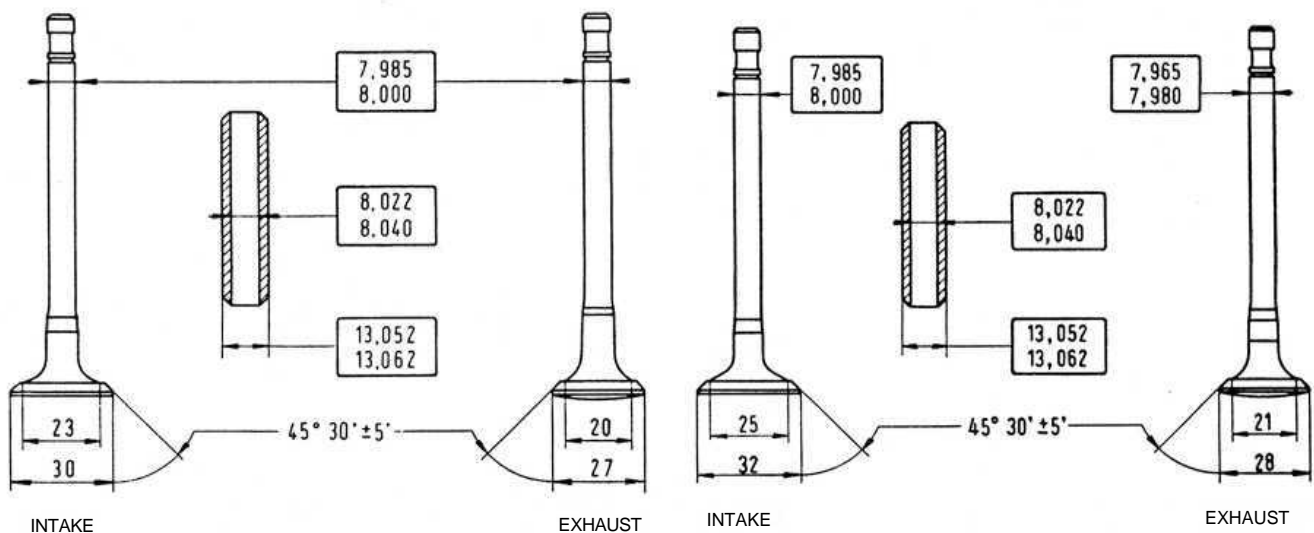

FIG 1 :18 Main specifications of intake and exhaust valves and valves guides (dimensions in mm)
- 2 Remove the rocker shaft pedestal and lift away the rocker gear. Extract the pushrods, making a careful note of their location. Remove the cylinder head hold down nuts in the order shown in **FIG 1 :44** and using a puller as shown in **FIG 1 :9** lift off the head.